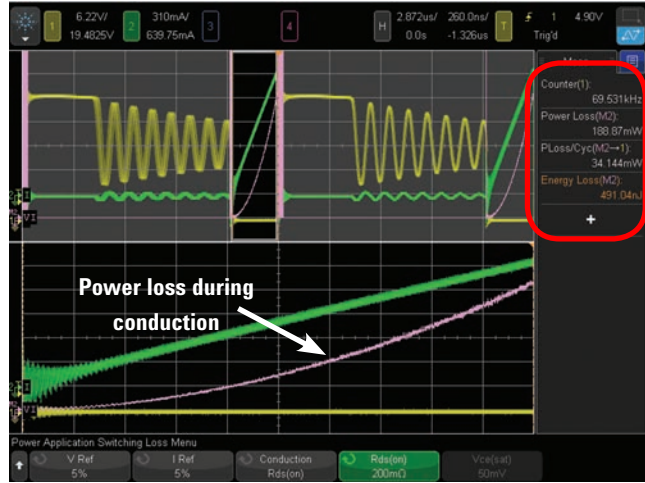

Figure 20: Windowing-in on the power waveform during the conduction phase.
19. Re-adjust the waveform math vertical position knob to again center the power waveform (purple trace) on-screen without clipping the power waveform on either the top or bottom as shown in Figure 20. Note that adjusting the waveform math vertical position and scaling knobs is an iterative process until you obtain optimum scaling without clipping within just the zoom/lower display.